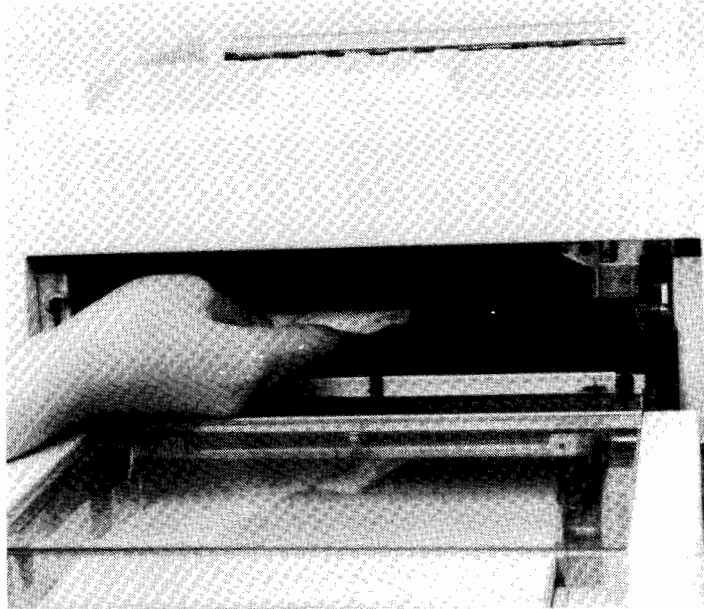

Figure 4-30. Lens Cleaning
- e. Clean the second cylindrical lens with lens cleaning paper (figure 4-30).